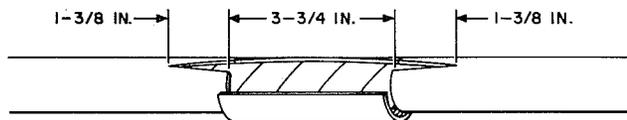

Fig. 4—Cable Sheath Removal
(2) Then remove sheath and underlying metal layers (Fig. 4).